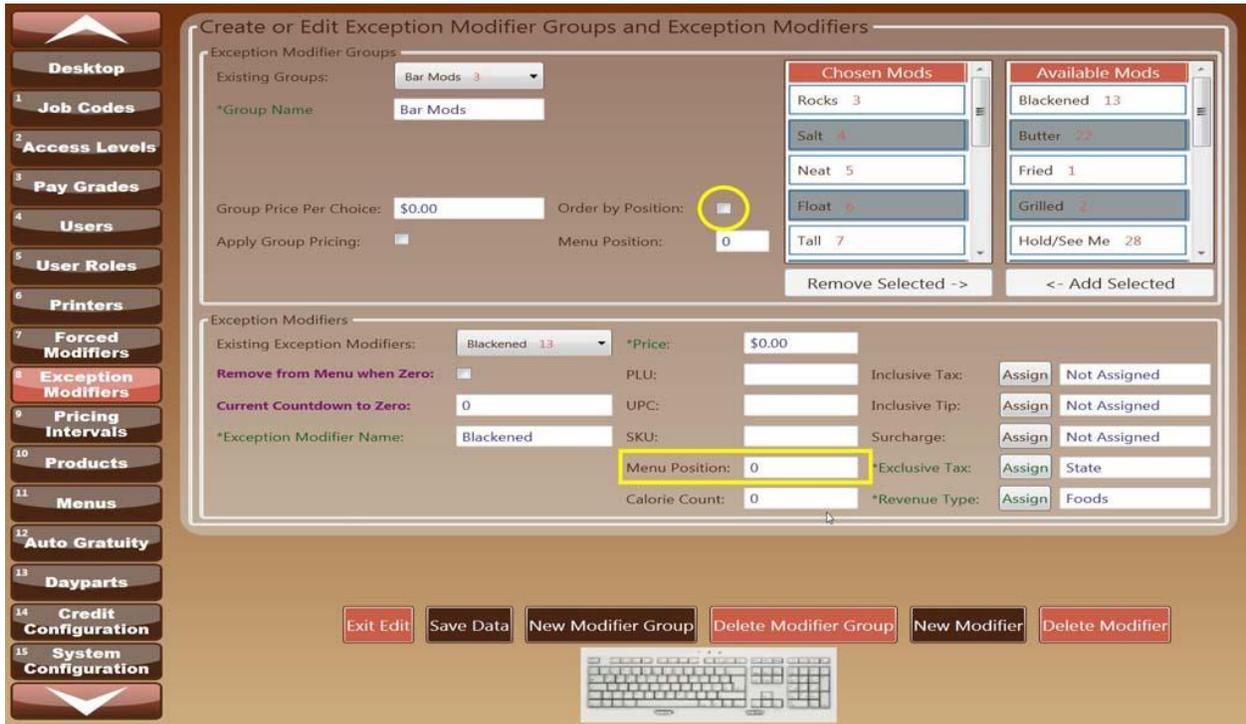

Figure 23
- h. **Menu Position**- is a feature allowing you to place the item in a certain order on the order screen. This is not a required entry and will default to alphabetical order if not selected. To enter a position of 1 on the menu you must enter the highest number. (i.e. 100 or 1000) the system will recognize this as a weight and will synchronize the products according to their weight. All other items without weights will be categorized alphabetically. To activate this positioning, refer to Menus under “Order Product Groups by Numerical Weighting”. *See Figure 23*
- c) Order by Position-activates the individual menu position located under Forced Modifier Section of the bottom portion of the screen. *See Figure 23*